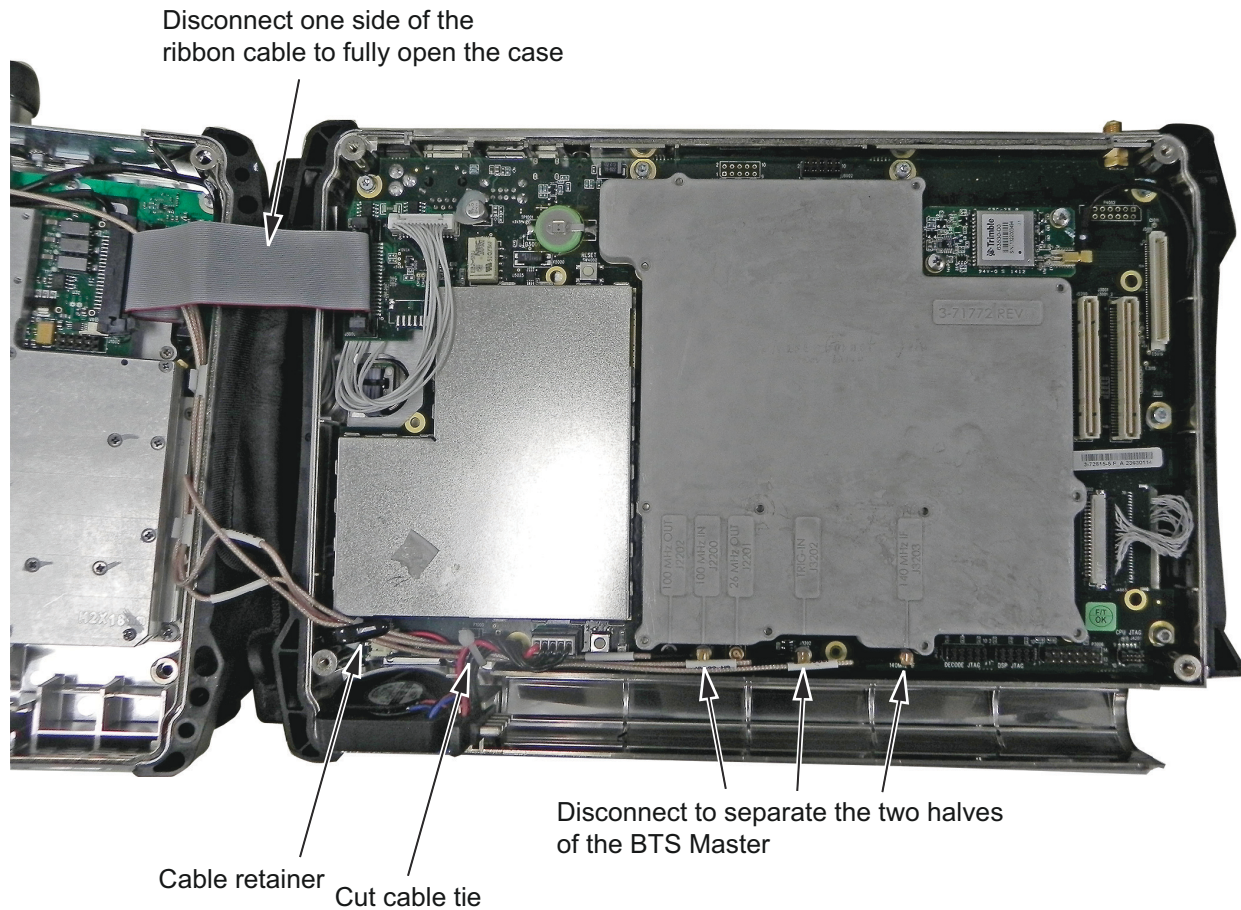
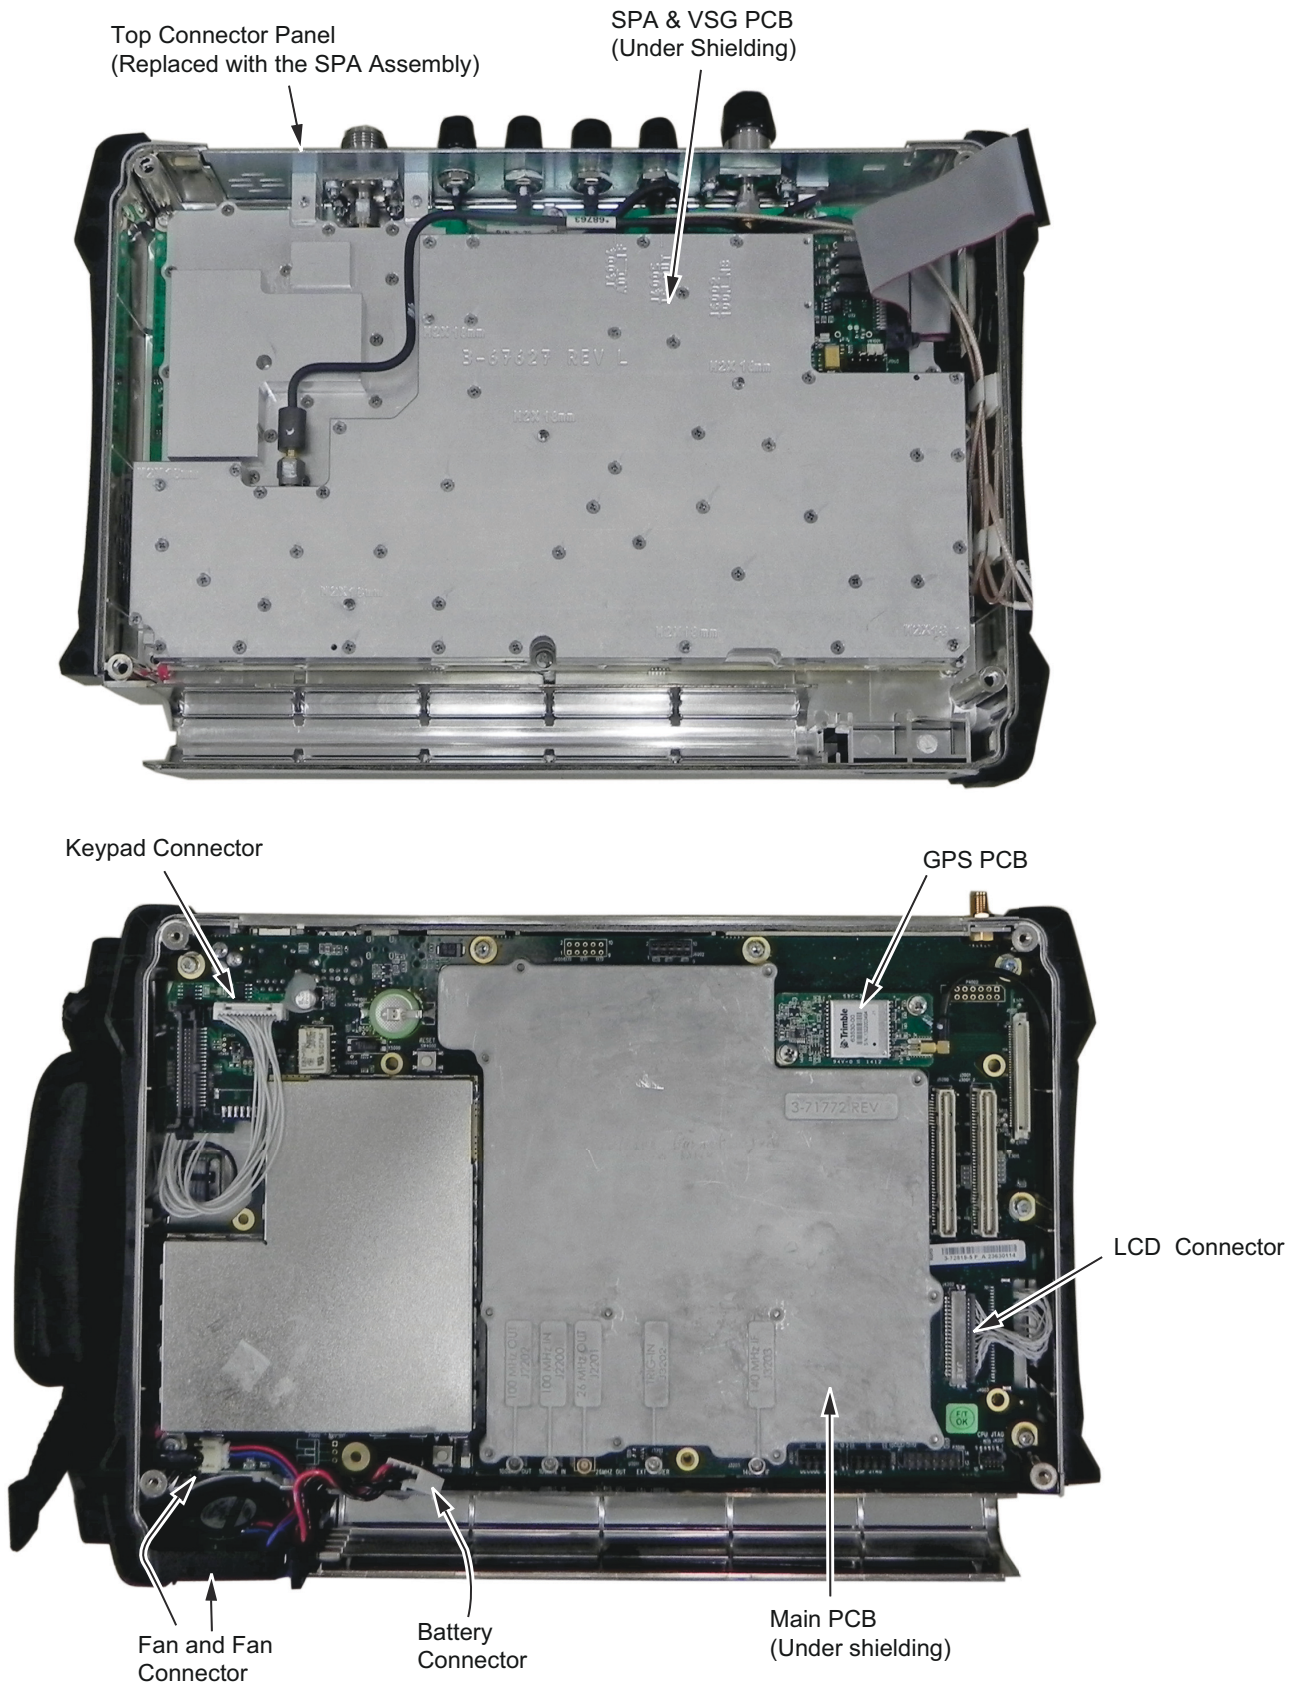

Figure 8-2. Disconnect the Cables Between the Two Halves of the BTS Master
Figure 8-3. SPA Analyzer PCB Assembly (Top) and Main PCB Assembly (Bottom)
Do not force or pull the two halves of the case apart completely, there are delicate cables attached between the two halves that must be disconnected first. Refer to Figure 8-2 and Figure 8-3.
- The two halves of the instrument can now be safely separated (Figure 8-3). Refer to the following sections of this chapter to remove and replace specific components of the instrument.